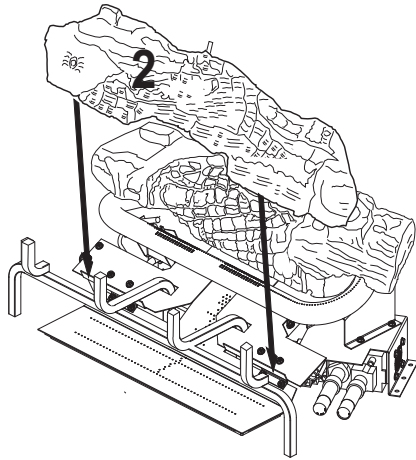

Figure 23 - Installing Log #2
- Place the middle log (#2) in front of the U-burner and against the edges of the plate as shown in **Figure 23**.